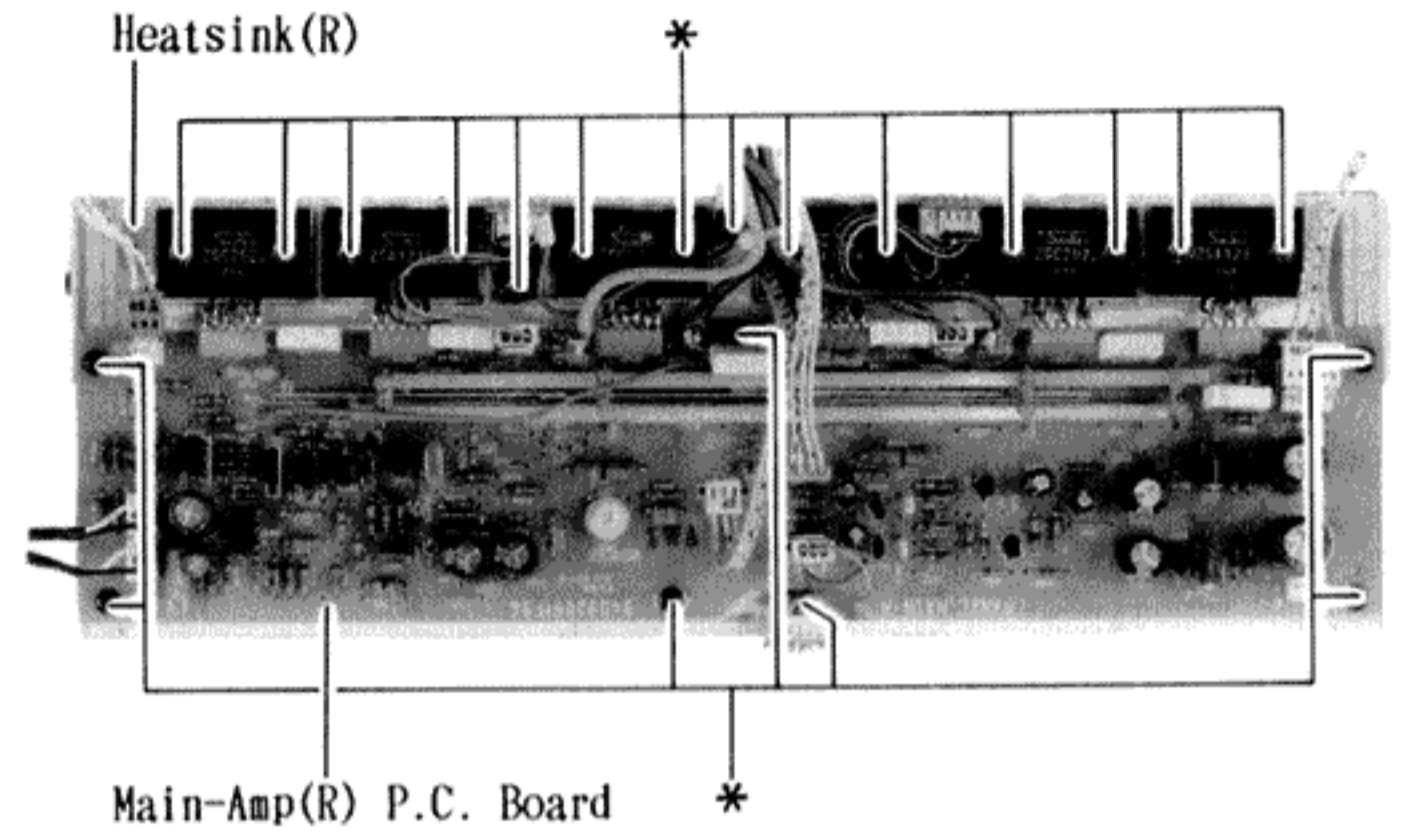

Figure 6
(1) After removal of Heatsink(R) remove twenty two screws marked " \* " as shown in Figure 6.